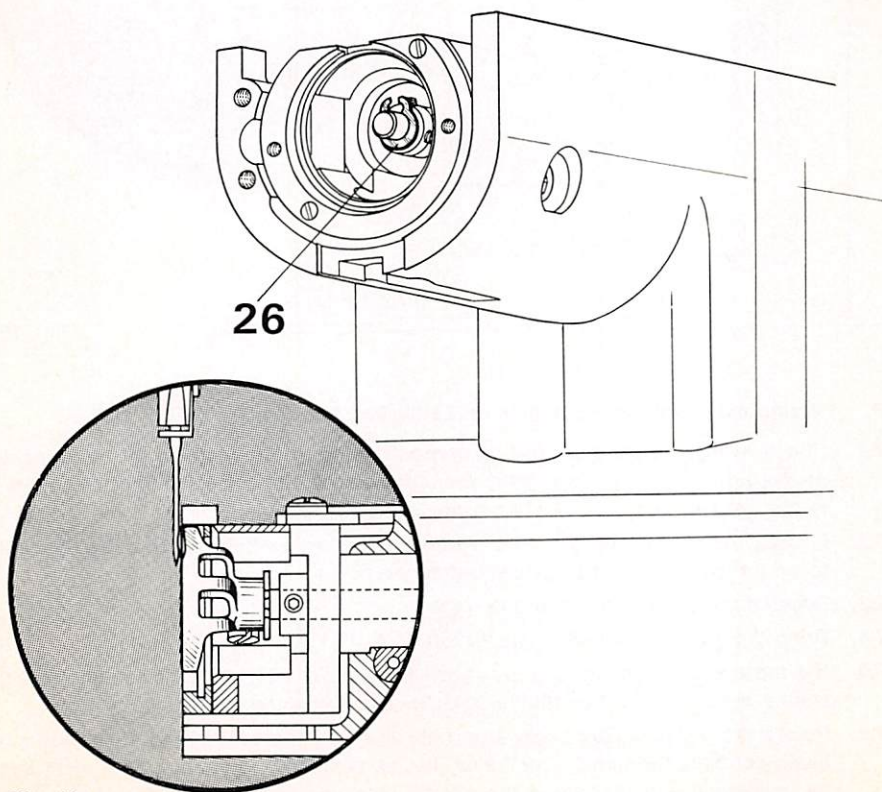

Fig. 15
**15. Adjusting the shuttle driver (Fig. 15)**